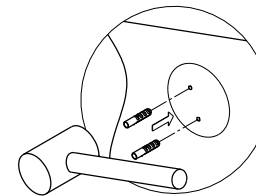

Fig. 4
Step 4. Insert anchors into the holes with a hammer until flush with the wall (fig. 4).